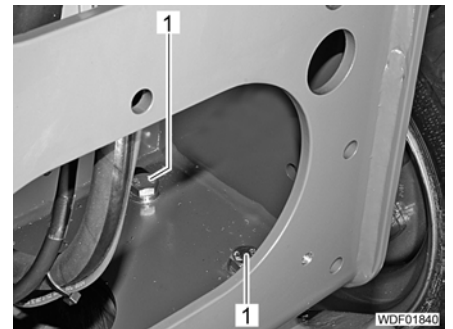

Fig. 462 Fastening of the rear weight (top)
- Unscrew 4 bolts (Fig. 462,1).
- Screw in 4 bolts (Fig. 462,1) with washers and spring washers, but do not tighten.